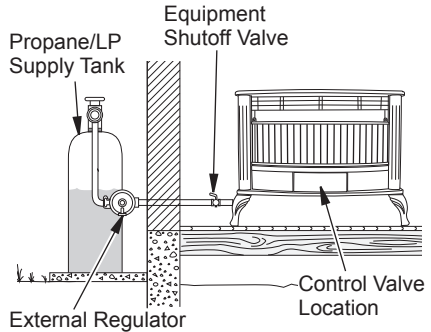

Figure 13 - Checking Gas Joints for Propane/LP Gas
3. Check all joints from gas meter to equipment shutoff valve for natural gas or propane/LP supply to equipment shutoff valve for propane/LP (see Figure 13 or 14). Apply a noncorrosive leak detection fluid to all joints. Bubbles forming show a leak.
4. Check all joints from equipment shutoff valve to control valve (see Figure 13 or 14, page 13). Apply a noncorrosive leak detection fluid to all joints. Bubbles forming show a leak.